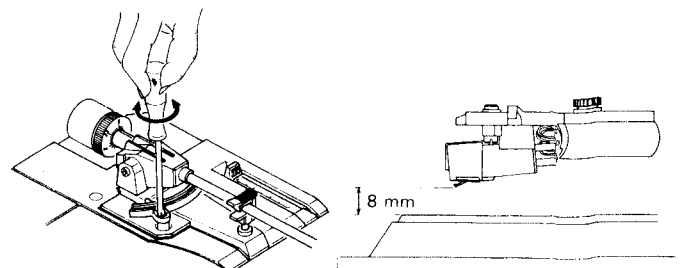

Fig. 22
6-(3) Tonearm Elevator-height Adjustment (Fig. 22)